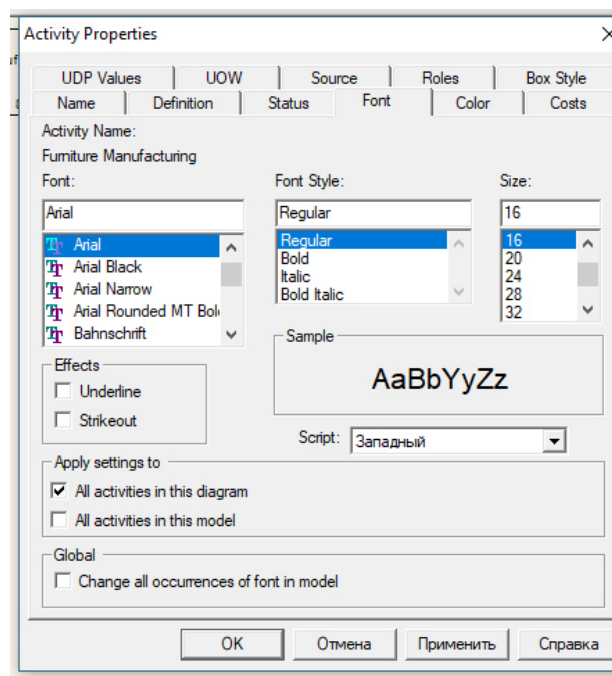

Fig. 1.8. The **Font** tab of the **Activity Properties** dialog box
6. Select **Arial Unicode MS** font, regular type, 16 pt. (fig. 1.8).